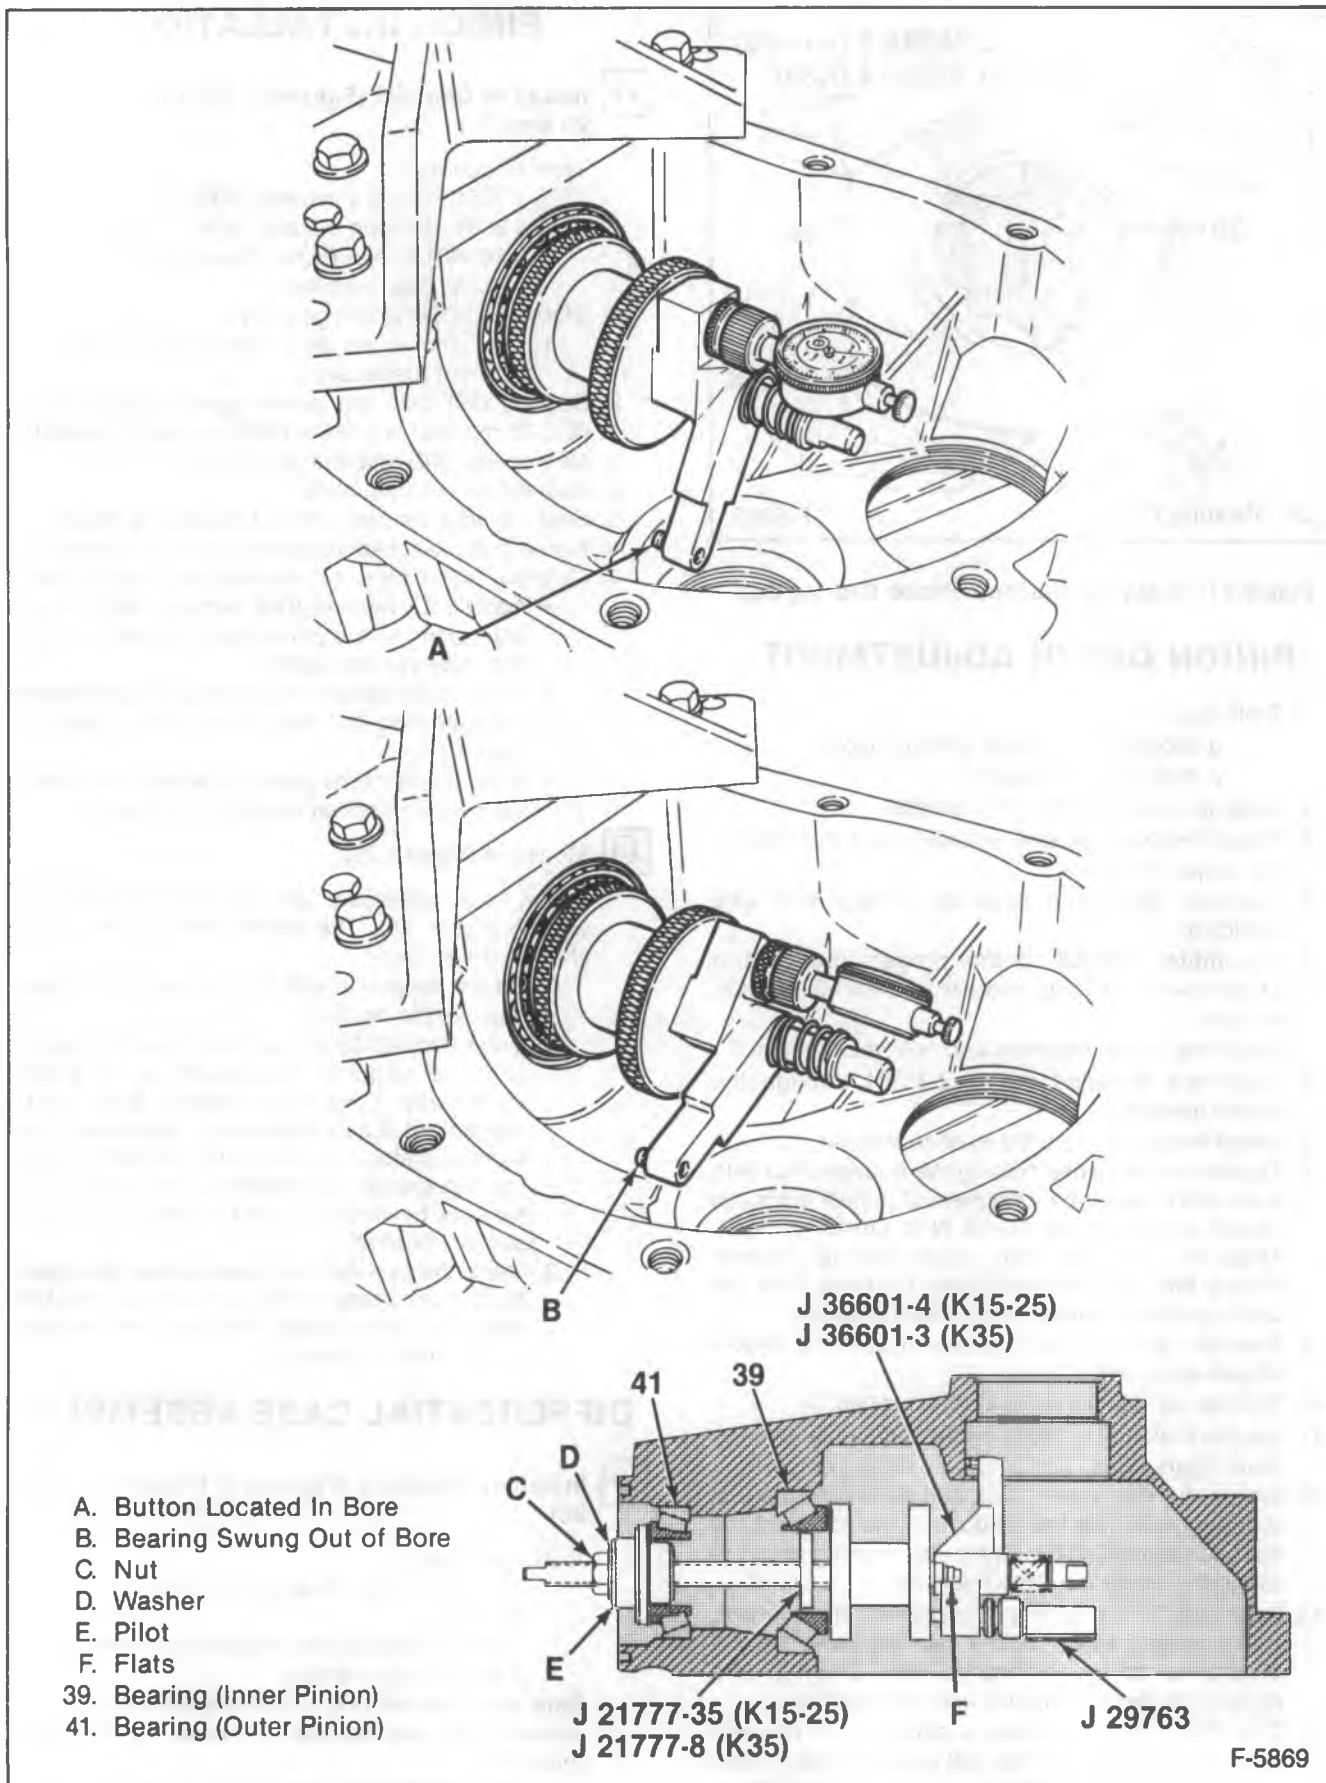

Figure 22—Measuring Pinion depth
2. Pinion depth is adjusted by selecting a shim (38) of the proper thickness.
11. Set the button of J 36601 on the differential bearing bore (figure 22).
13. After the ZERO setting is obtained and verified, grasp the gaging arm by the flats and move the tool button out of the differential side bearing bore (figure 22). Record the dial indicator reading.